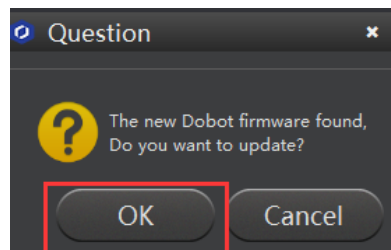

Figure 5.62 Confirm the firmware upgrade
2. Click **OK**, as shown in Figure 5.62.